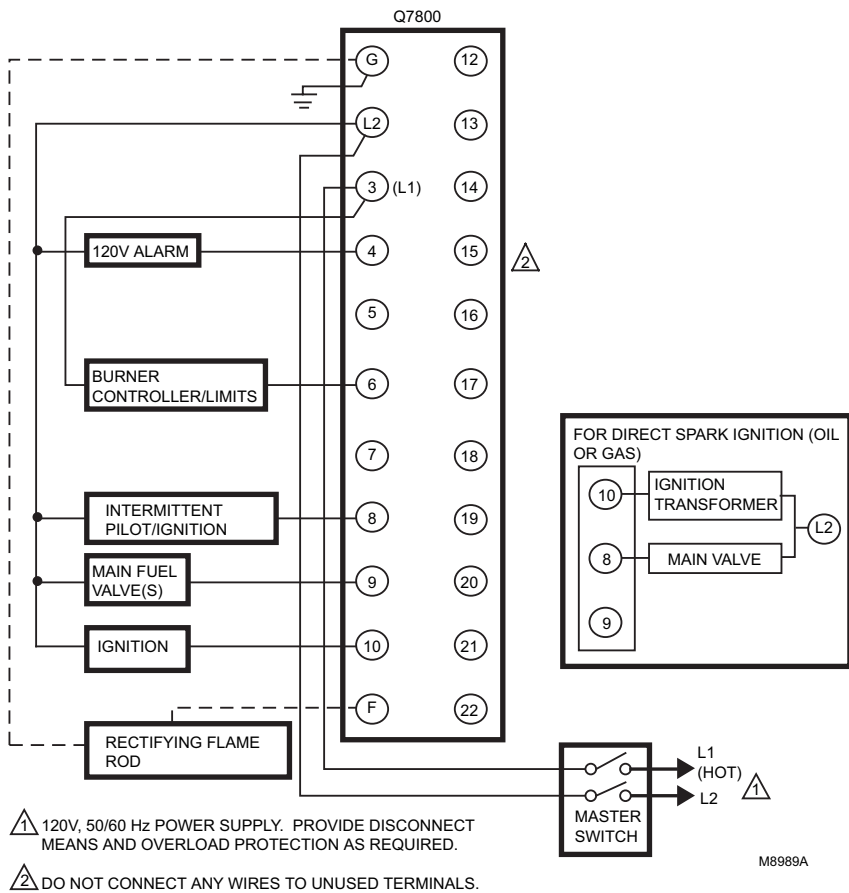

Fig. 5. Wiring the RM7890D Relay Module.
1. For proper subbase wiring, refer to Fig. 5 and 6.